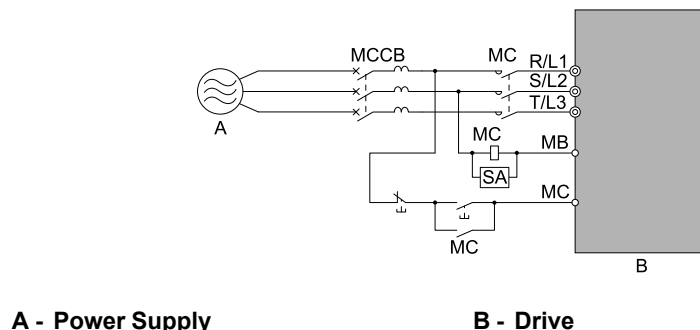

Figure 3.76 Connect an MCCB
- When you connect more than one drive or the drive and other device to an MCCB or GFCI, refer to Figure 3.76, use a magnetic contactor (MC), and set a sequence that de-energizes the drive when it outputs errors.